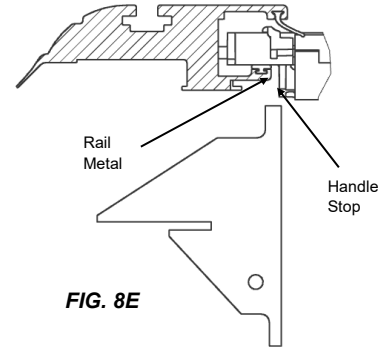

FIG. 8E
Now tighten your clamp turn knobs hand tight. Finally, check for proper spacing by measuring between the rails by attempting to insert the BR Gauge in between the rail metal and the handle stop (FIG 8E). You can also check the between the rail measurement at the canister and the tailgate end of the rails. The measurements should be equal to or less than those in Figure 8C. The Clamp Extensions have been pre-installed with brackets and shims to achieve the proper Between the Rail dimension (BR) when placed on an average factory truck bed. However, not all truck beds are average dimensionally and some have optional plastic caps or over the rail spray-in liners.